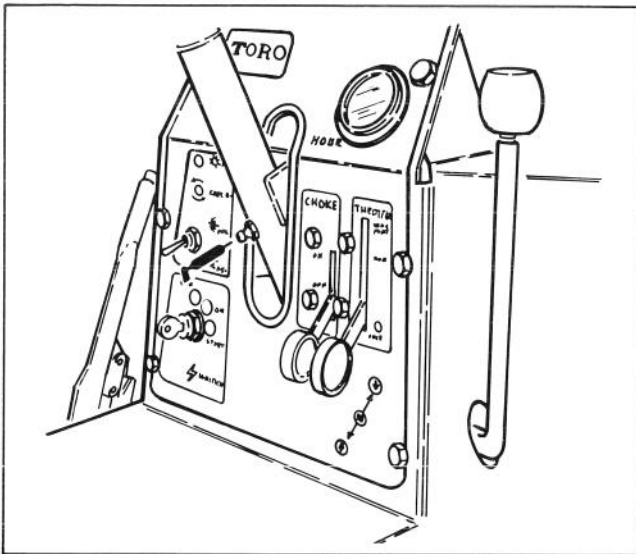
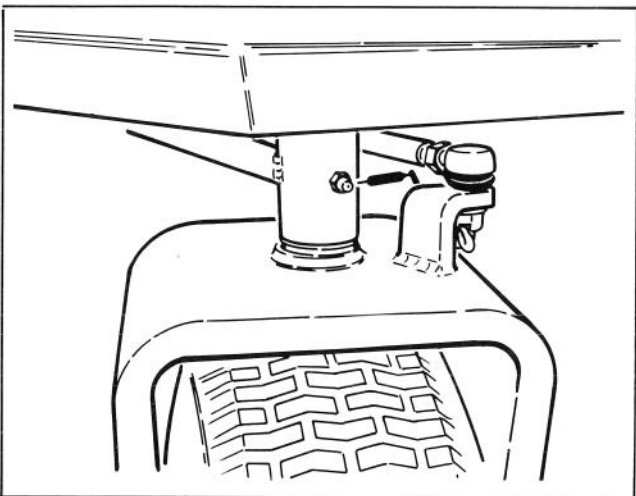
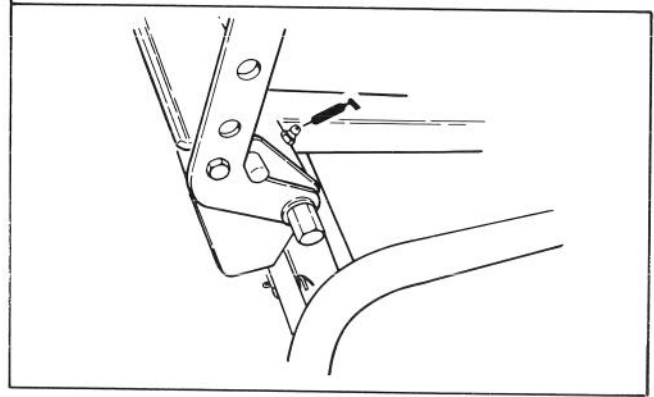
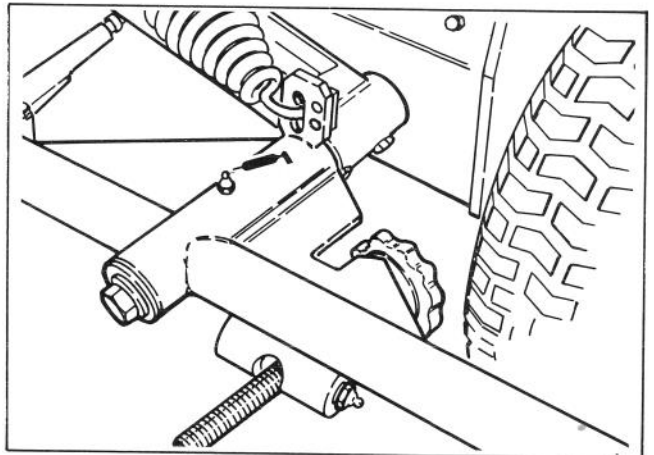

Figure 24
Figure 25
Figure 26
Figure 27
Steering column (Fig. 24), steering shaft (2), rear castor fork (Fig. 25), jackshaft pulley bearing (2), lift arms (3) (Fig. 26) rear axle, and pivot rods (3) (Fig. 27).